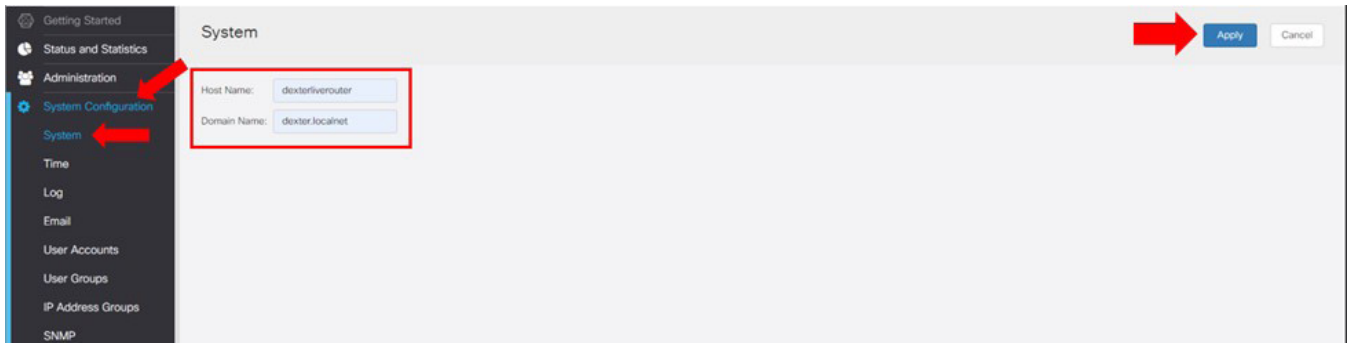

Figure 15
13. In the left navigation pane, select "System Configuration" (Figure 15)